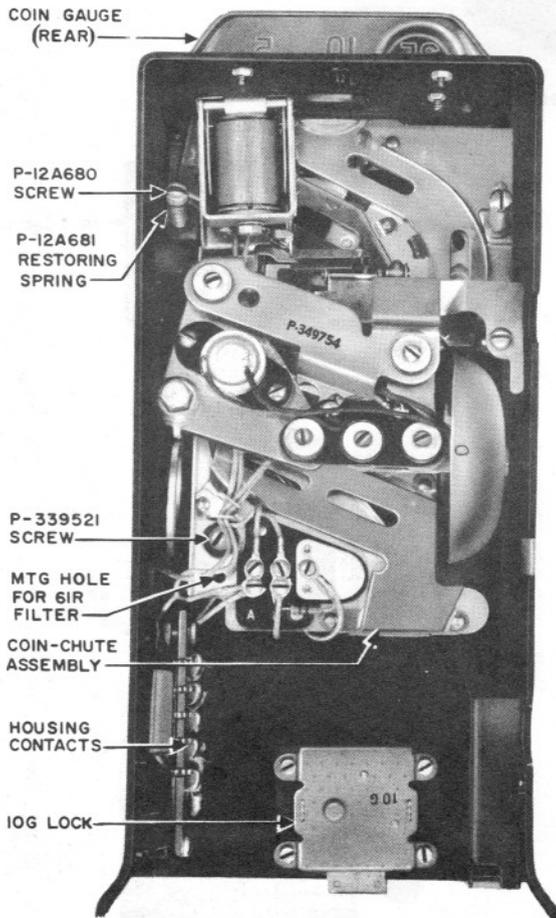

Fig. 9 — Upper Housing, Rear View
two P-12A680 screws, two P-12A681 restoring springs, and one P-339521 screw, as shown in Fig. 9. Coin chutes not associated with washer-reject mechanisms are mounted by three P-339521 screws.
4.13 A radio-frequency suppression filter, although it is attached to the coin chute, is not considered a part of the chute assembly. The filter when used is mounted on the rear side of the coin chute at the lower left corner. A mounting hole is provided as shown in Fig. 9. Dial postpay coin collectors are normally equipped with 61R filters. Dial prepay coin collectors when equipped with 61R filters should be identified by a red dot located on the back of the coin gauge.